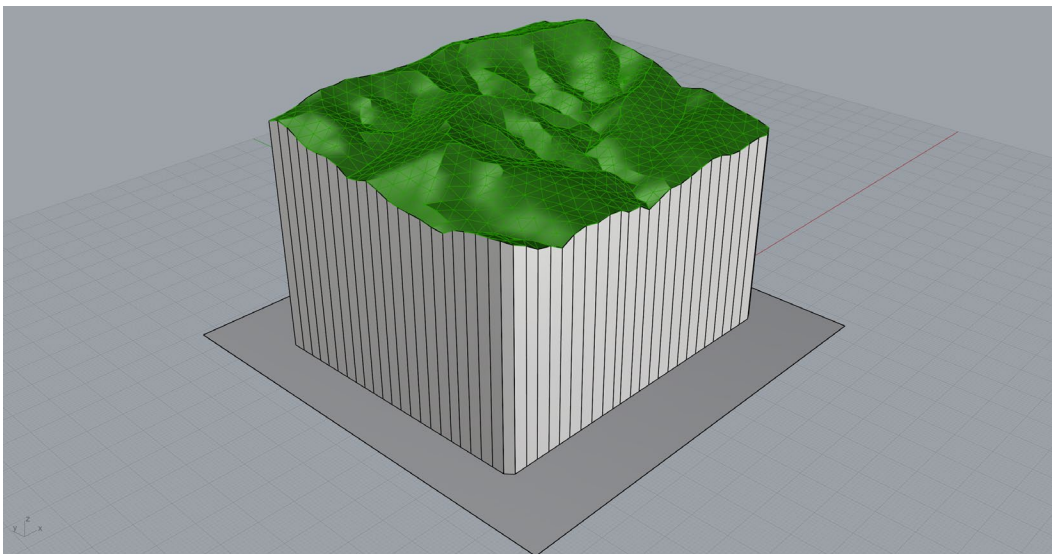

Figure 56: Extrusion of topographic surface border.
20. Create an extrusion from the border curve to the plane by running the **_ExtrudeCrv** command and selecting *ToBoundary*. This will create a polysurface that intersects the horizontal plane (Figure 56). Delete the duplicate border once finished.